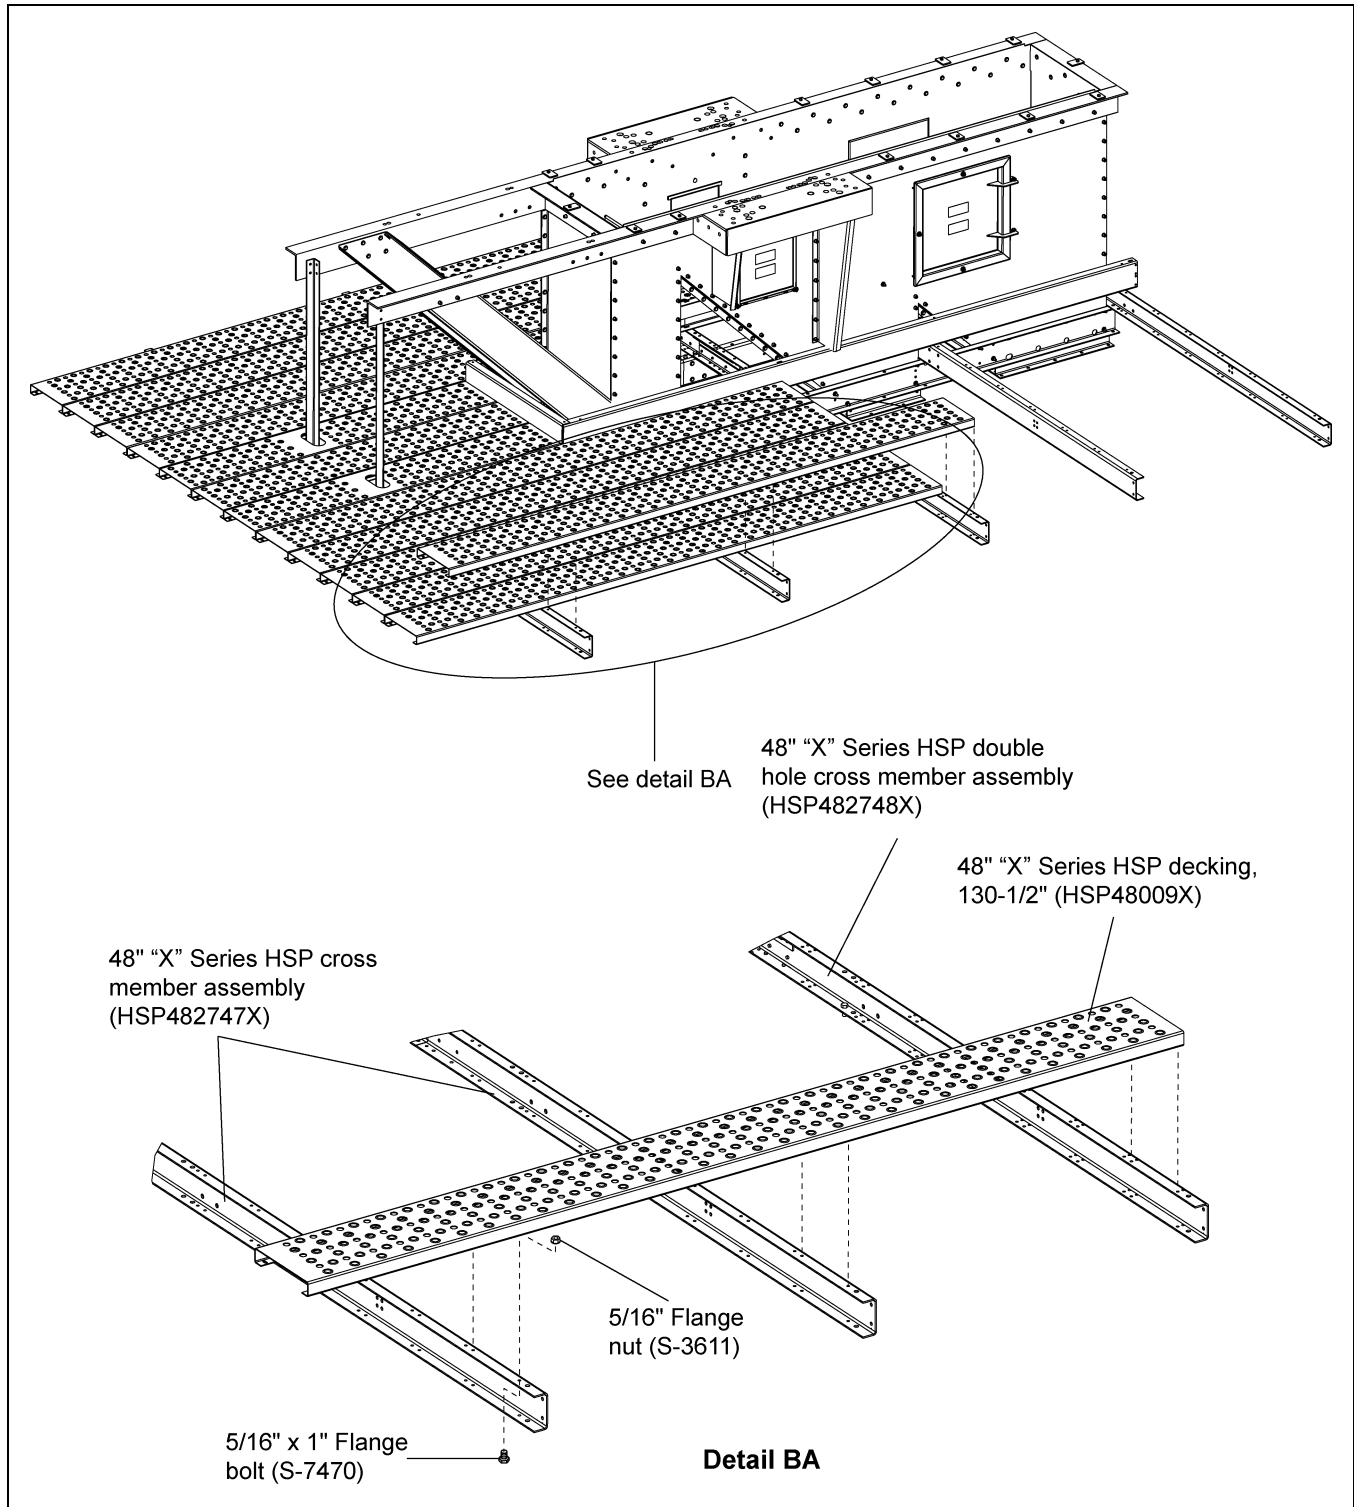

Figure 9L
1. Install six (6) planks of decking (HSP48009X) on the drive side at the up-leg end. **NOTE:** *Be sure to install this section of decking by starting at the inside next to the toe board and working outward.*
2. Fasten the decking to the three (3) cross channels using 5/16" x 1" flange bolts (S-7470) and 5/16" flange nuts (S-3611). (See Figure 9L.)